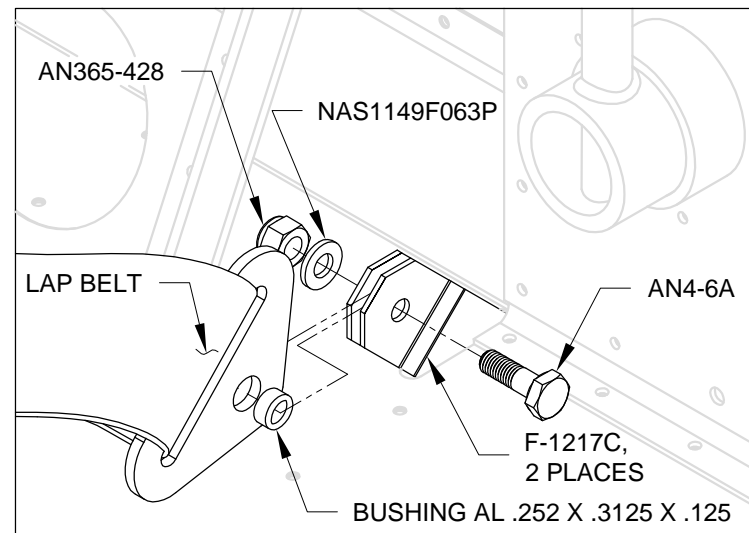

FIGURE 2: LAP BELT ATTACH
Step 3: Attach the end fitting of the lap belts to the F-1217C Seat Belt Attach Lugs using the hardware shown in Figure 2.